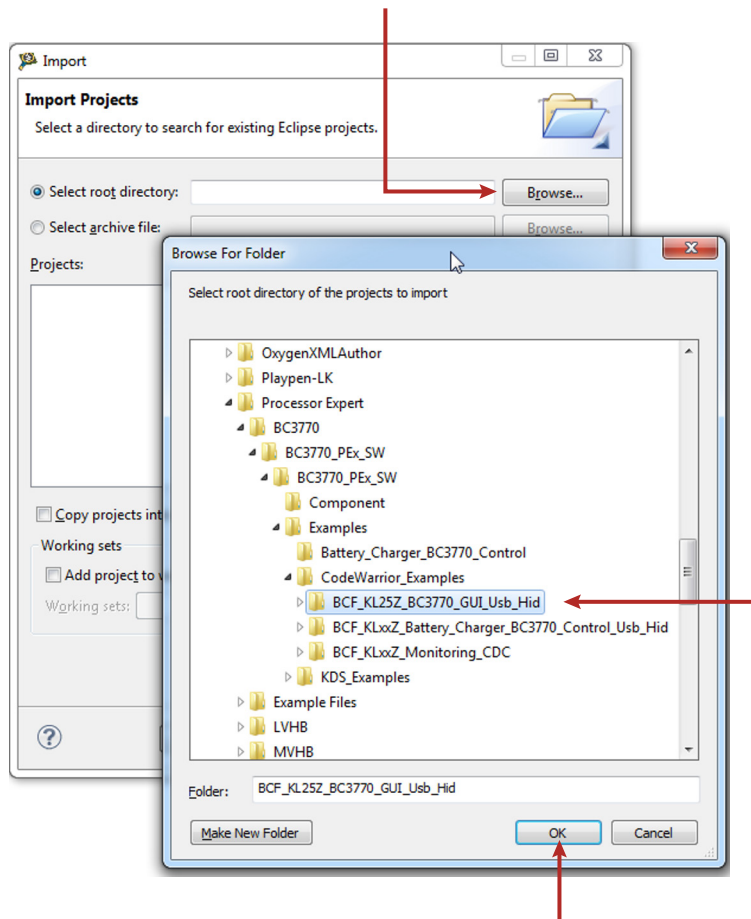

Figure 21. Importing an example file (b)
2. Click **Browse** and locate the folder where you unzipped the downloaded example files. Find the folder BC3770_PEx_SW\Examples\CodeWarrior_Examples and select a project to import. (see Figure 21, which shows BCF_KL25A_Battery_Charger_BC3770_Control_Usb_Hid as the imported project). Then click **OK**.